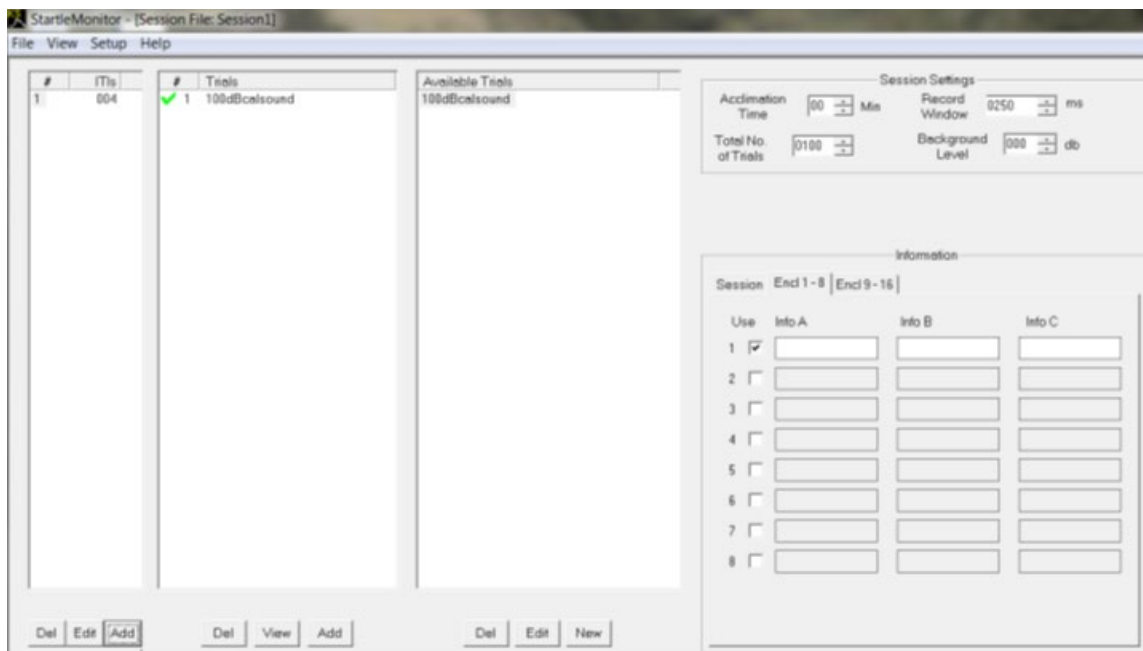

Figure 122 CalSound Session Screen Example
8. Click on **100dBcalsound** in the Available Trials list. The display should appear similar to the one shown in Figure 122.
On older Systems, the sound level adjustment potentiometer is located on the side of the Service Pack instead of the front as shown in Figure 122 and is labeled **SOUND LEVEL**.